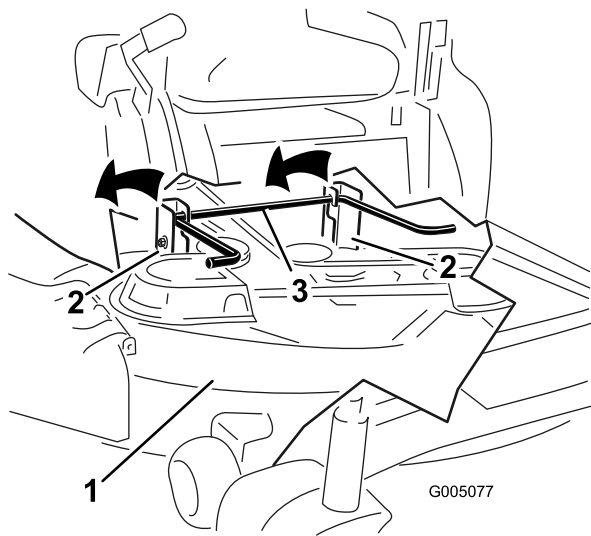

Figure 44
5. Lift the mower and hanger brackets clear of the rear lift rod and lower the mower carefully to the ground (Figure 44).
- 5. Lift the rear of the mower deck and guide the hanger brackets over the rear lift rod (Figure 44).